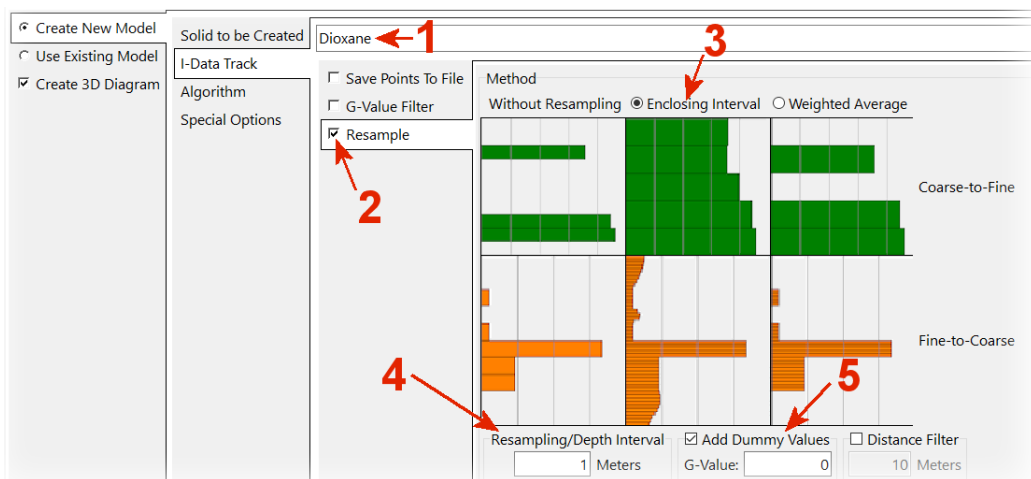

Figure 69
- Click on the I-Data Track tab (Figure 69) and ...